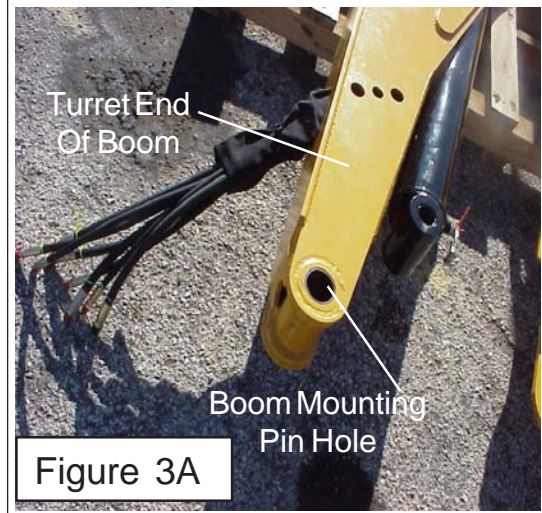

Figure 3A
5. Lower Boom onto Turret Assembly. Using an over head hoist lift the boom by placing a lift strap at the boom hinge point (See Figure 2), the boom assembly will be shipped with the two boom end tie wired together (See Figure 3A). The wire tie will need to be removed as it is tied through the boom hinge pin hole. Lift the boom above the turret assembly and lower it back down onto the turret assembly aligning the boom with the mounting pin hole. Install the Mount Pin through the turret and into the boom. Make certain the pin is installed correctly as one side of the pin is self locking in design. Tighten the pin retaining nut and install cotter pin. (See Figure 3C)